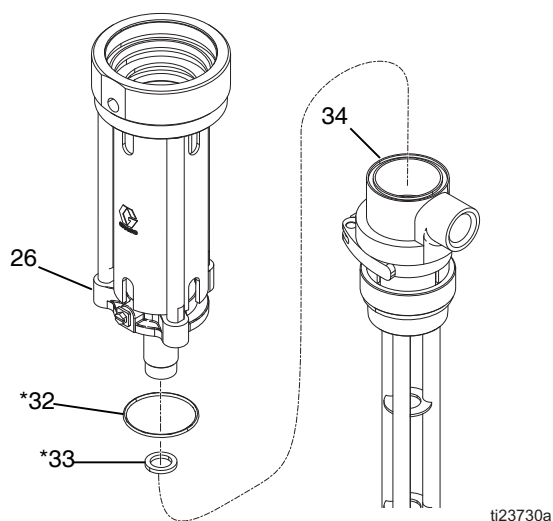

FIG. 23
12. Unscrew mounting flange (26) from pump body (34). Remove o-ring (32*) and PTFE gasket (33*) from pump body (34). Inspect all parts for damage. See FIG. 23.